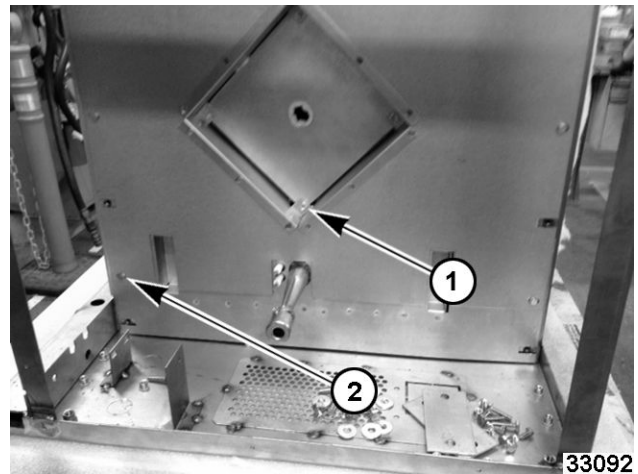

Fig. 15
8. Remove inner right hand side inside (1, Fig. 15) and outer (2, Fig. 15) mounting screws.